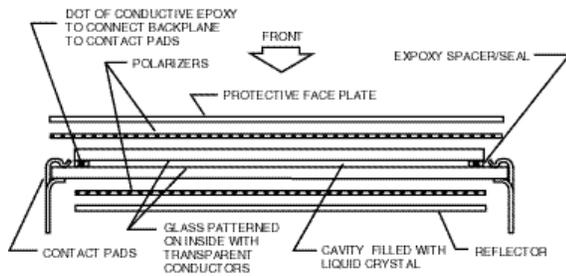
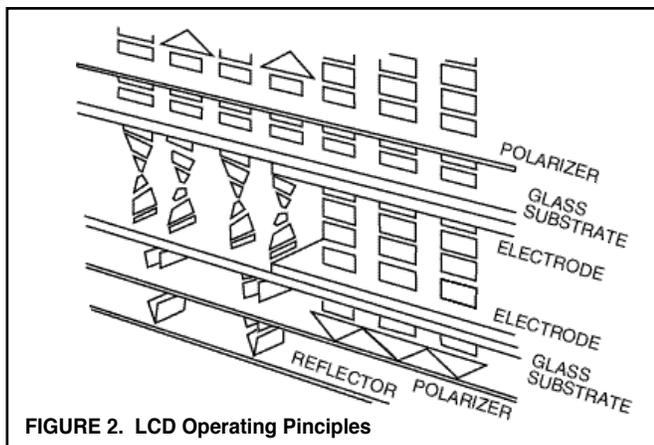

FIGURE 1. LCD Cross-Section
FIGURE 2. LCD Operating Principles
**DISPLAY CONSTRUCTION AND OPERATION** - The best description of liquid crystal is that is an ordered fluid of a class called nematic. Nematic fluids of the type used for liquid crystal displays consist of cigar-shaped organic molecules with the long axis of each molecule pointing in the same direction. The display cell is constructed from two pieces of glass coated on the inner side with transparent indium oxide conductors, as shown in Fig.1. Each of the transparent conductors on the inside of the larger rear glass piece is shaped to form the individual segments of the display and are terminated on individual contact pads. The single conductor on the inside of the front glass piece is shaped so as to be common to all the segments on the rear glass. Traditionally this common conductor is usually referred to as the "back plane". The common back plane is connected to the two left most (viewed from the front) contact pads by a small dot of conductive epoxy imbedded in the spacer/seal. The glass surfaces are also specially treated to align the liquid crystal molecules in a particular direction. Alignment is parallel to the plane of the glass, with the alignment direction of the top rotated 90° relative to the alignment of the bottom plate. This causes the cigar-shaped liquid crystal molecules in the cell to assume a twisted orientation, when viewed from top to bottom. As shown in Fig. 2, the plane of polarization of polarized light will follow this twist and emerge from the cell rotated 90°. Thus, when the cell is placed between crossed polarizers, the polarizers will transmit light. When an electric field is applied to the transparent conductors on the inside of the glass cell, the liquid crystal molecules will physically move and reorient themselves parallel to the field. The 90° twist is then destroyed, and that portion of the cell between the conductors will appear dark. Conversely, when the cell is placed between parallel polarizers light cannot be transmitted and the entire display will appear dark. When the electric field is then applied the segments formed by the transparent conductors will then appear light against a dark ground.